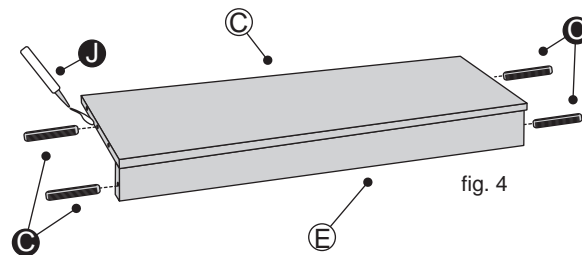

fig. 4
4. Place a small amount of Glue **J** into the dowel holes. Then insert Dowels **C** into the Bottom Panel **C** and Front Panel **E**. See fig. 4.